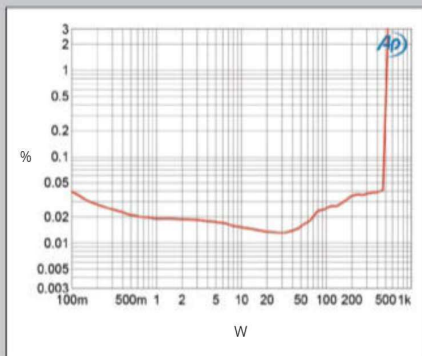
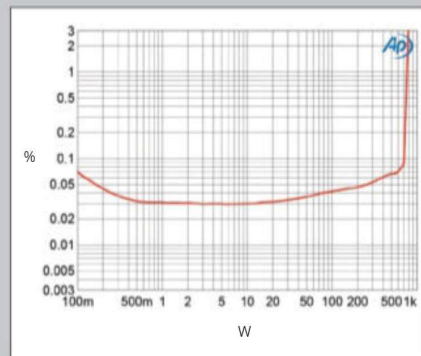

Fig.5 JMF HQS 7001, distortion (%) vs 1kHz continuous output power into 4 ohms.
Fig.6 JMF HQS 7001, distortion (%) vs 1kHz continuous output power into 2 ohms.
24.1dBW, fig.5). The HQS 7001 clipped at 760W into 2 ohms (22.8dBW, fig.6), which is lower than the specified maximum power. However, the wall voltage had dropped from 121.4V AC with the amplifier idling to 118.7V AC with it clipping into 2 ohms; this drop was responsible for the shortfall in clipping power.